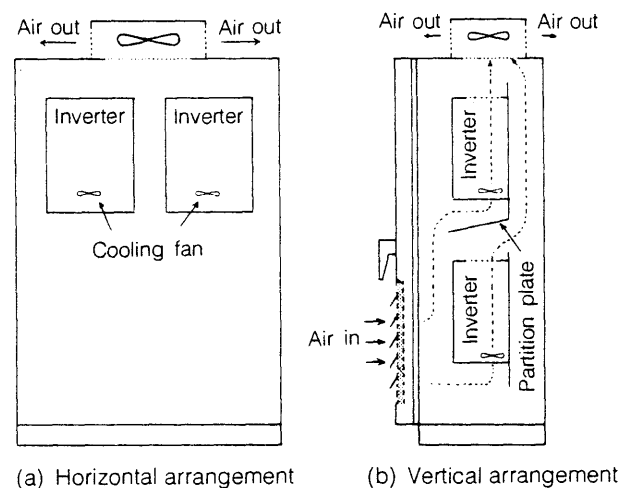

Fig. 4-2 Inverter arrangement in a board
- ① Temperature inside the board should not exceed 50°C.
- ② To avoid temperature rise in the board, do not install the inverter in a small sealed board nor install parts and heat sources close to it.
- ③ When installing a cooling (ventilation) fan to the board, make a design so that cooling air will pass through the heat generating part. Improper arrangement of the inverter and fan may cause temperature around the inverter not to be lowered to the specified value even though the fan has a required capacity.
- ④ When installing more than one inverter in a board, arrange them horizontally as shown in Fig. 4-2 (a). When vertical (above and below) arrangement is unavoidable, provide a partition plate between the inverters as shown in Fig. 4-2 (b) so that the heat from the lower inverter will not affect the upper one.